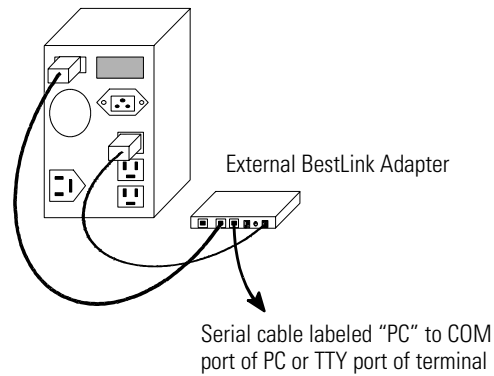

Figure 4. Cable Connection with External BestLink Adapter
1. If configuring an external BestLink Adapter, connect the supplied serial cable labeled “PC” to the PC port on the BestLink Adapter (see Figure 4).